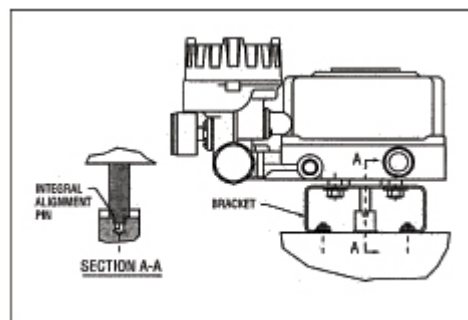

Figure 2: Positioner Mounting with NAMUR shaft
2. If required, install a coupler on the actuator shaft. Make sure the shaft and coupler are centered. See Figure 2.